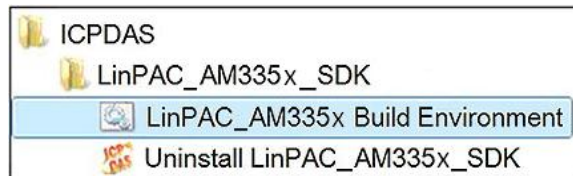

Fig. 3-22
- Double-click the shortcut icon for the “LP-52xx Build Environment” (Refer to Fig. 3-22).